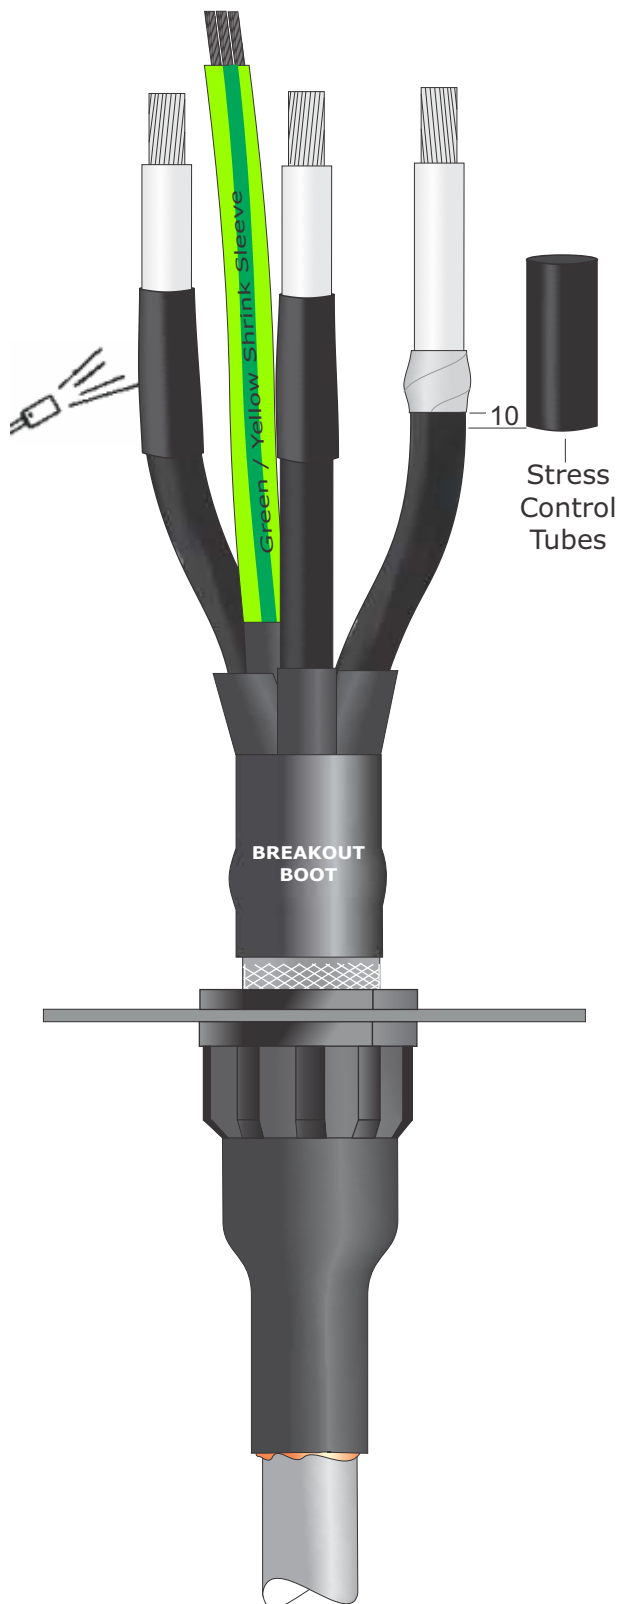

Fig 4
8. Position the stress control tubes onto each core so that the bottom of each tube is covering the yellow stress relief tape by approximately 10mm as in Fig 4.